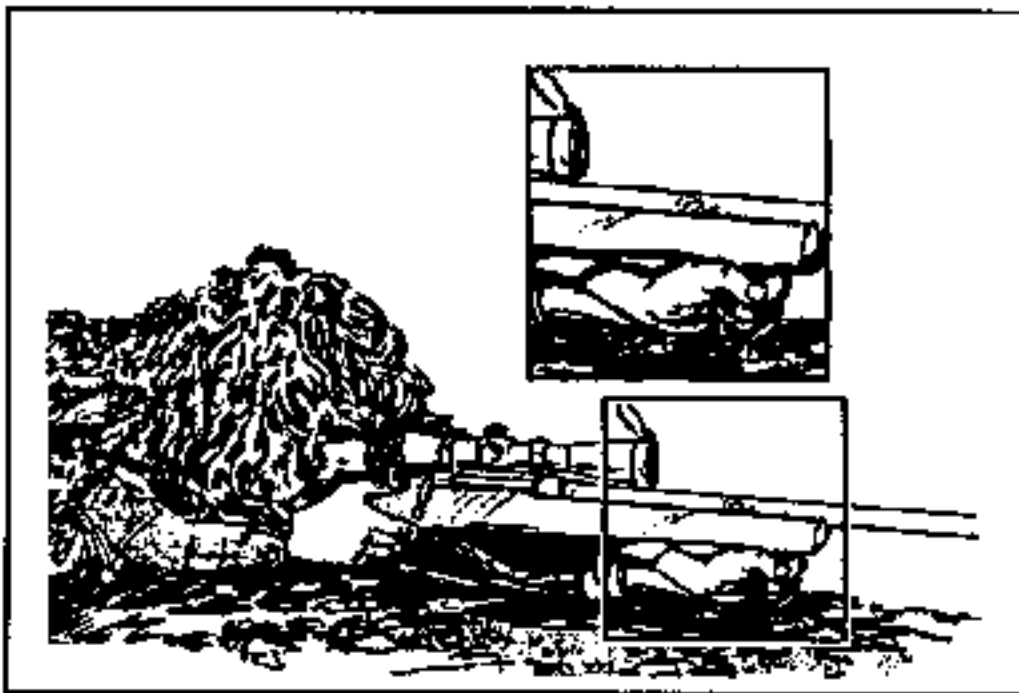

Figure 3-8. Hawkins position.
(6) Hawkins position. The Hawkins position (Figure 3-8) is a variation of the prone unsupported position. The sniper uses it when firing from a low bank or a depression in the ground, over a roof, or so forth. It cannot be used on level ground since the muzzle cannot